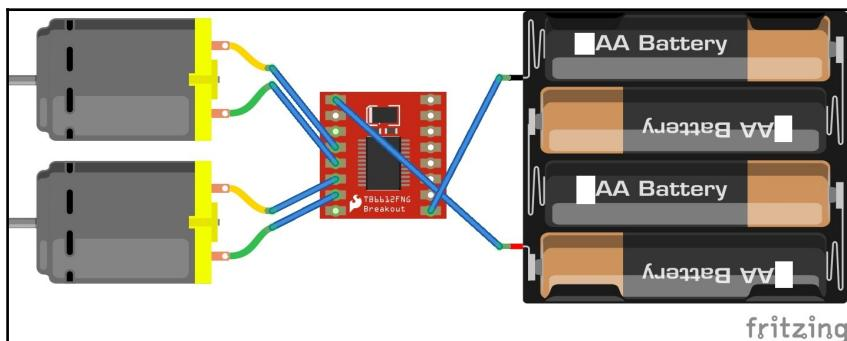

Figure 2.33: Connecting 4 x AA battery to the motor driver board
2. Then, connect the output from the 4 x AA battery to the motor driver board (*Figure 2.33*):